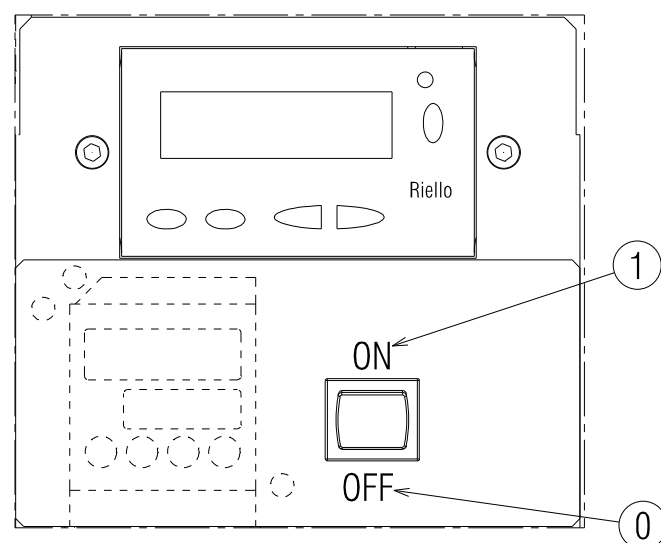

Fig. 29
Close the thermostats/pressure switches and set the switch of Fig. 29 to "1/ON".
- put the switch of Fig. 29 to "0/OFF" and wait until the control box carries out the switching off phase;